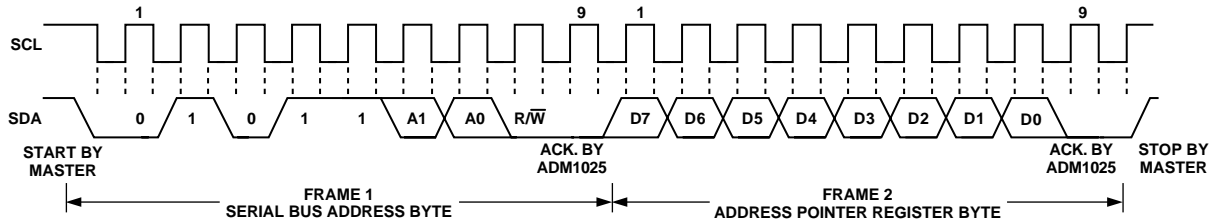

Figure 9b. Writing to the Address Pointer Register Only
1. If the ADM1025's Address Pointer Register value is unknown or not the desired value, it is first necessary to set it to the correct value before data can be read from the desired data register. This is done by performing a write to the ADM1025 as before, but only the data byte containing the register address is sent, as data is not to be written to the register. This is shown in Figure 9b.
2. If the Address Pointer Register is known to be already at the desired address, data can be read from the corresponding data register without first writing to the Address Pointer Register, so Figure 9b can be omitted.